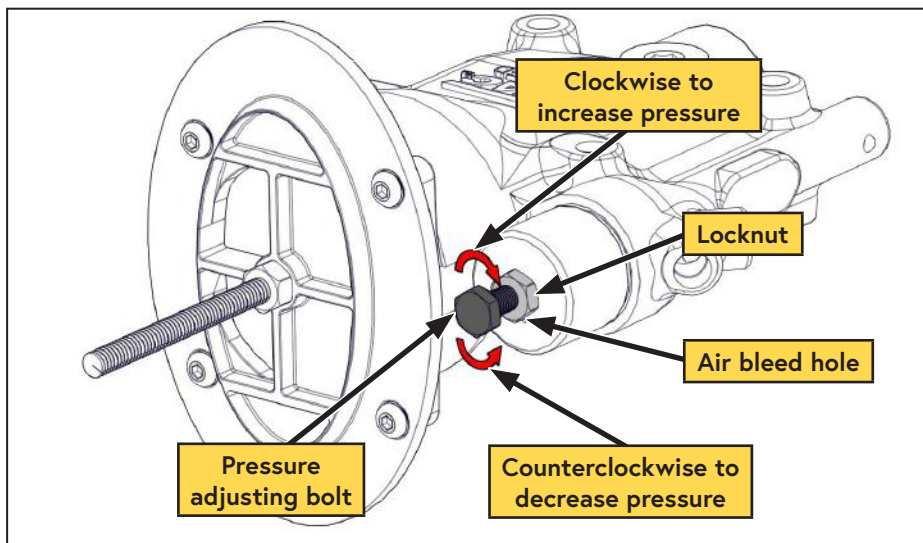

Figure 46 — Adjusting the inlet pressure regulator
- ☐ Loosen the locknut on the regulator (Figure 46).
- ☐ Rotate the pressure adjusting bolt as required to set the regulated pressure to 140 psi. (Figure 46).